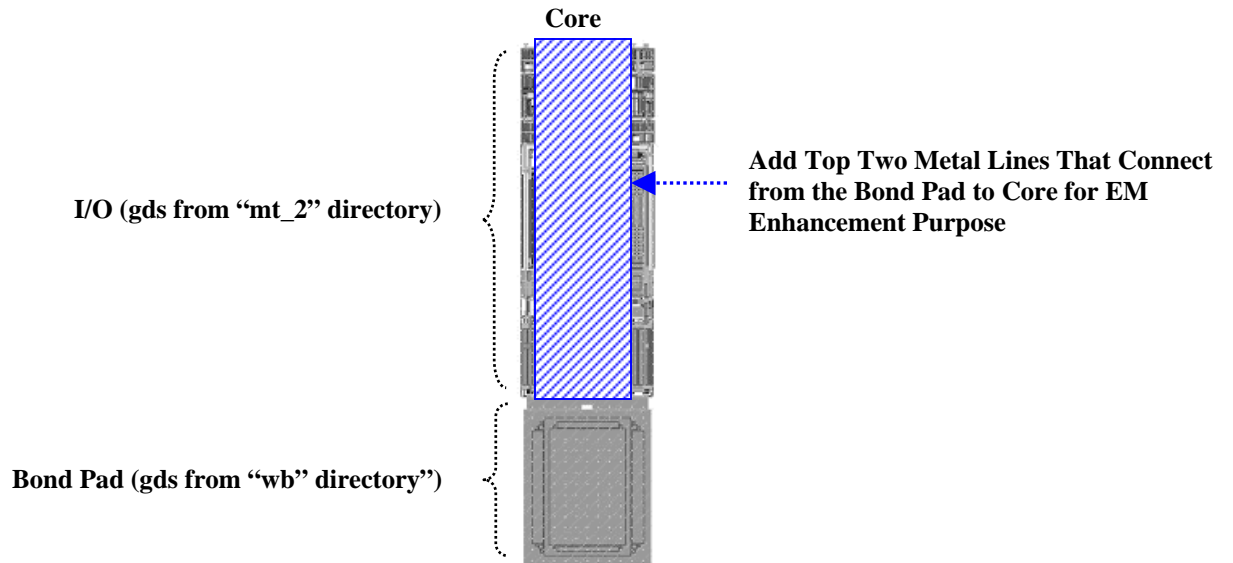

Figure 8.2 EM Enhancement through the Top Two Metal Lines
Step 3: Connect the top 2 metal lines from the bond pad to internal core as depicted in *Figure 8.2*.